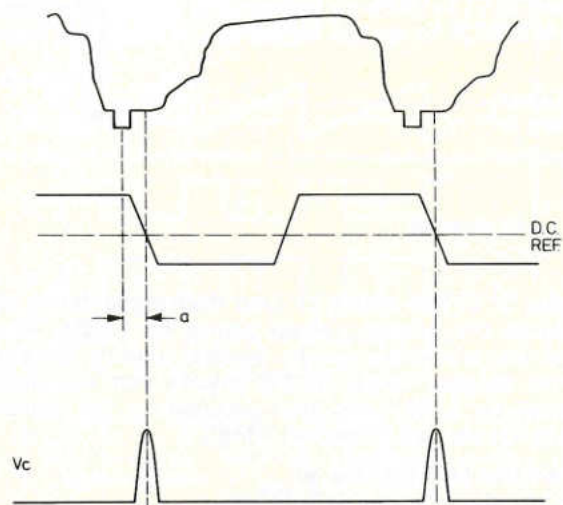
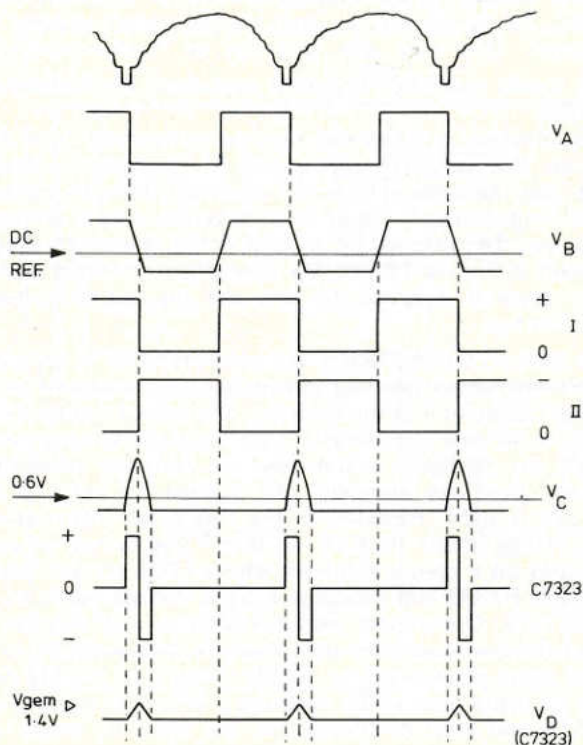
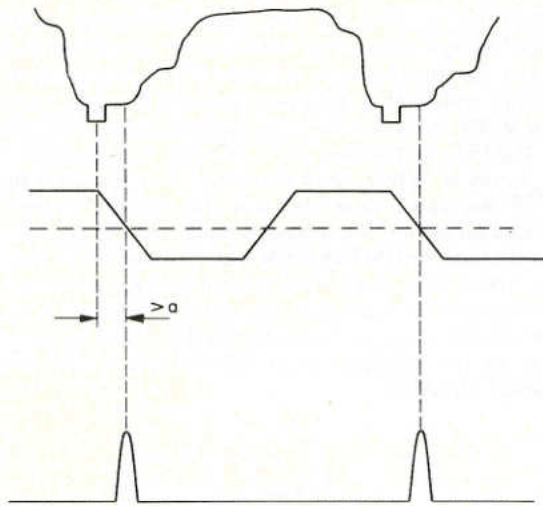

Fig. 9
Fig. 8
Fig. 10
phase difference between the integrated squarewave voltage B (Fig. 8) which is obtained from the sync. module (and has a fixed phase relative to the video signal) and the horizontal flyback pulses C from the horizontal output stage. If the squarewave voltage  $V_B$  exceeds a certain reference value, current source I is switched on; if  $V_B$  is smaller than the reference value, current source II is switched on. Each time that the voltage on point 2 of IC7322 exceeds a certain value (approximately 0.6V) the electronic switch in the phase discriminator closes. Then either current source I supplies (charging) current to C7323 or current source II discharges C7323. In the case of a correct phase relationship between the horizontal flyback pulses (C) and the squarewave voltage (B), both current sources supply equal currents to C7323 so that this capacitor is charged to the same extent as it is discharged. The average voltage across C7323 does not change (remains 1.4V) and the oscillator is not corrected (see Fig. 9). If the average voltage increases due to the oscillator leading, then via R7323 point 15 becomes more positive relative to point 14 so that the upper level of the level detector is raised and the oscillator frequency is reduced. The reverse happens if the oscillator lags. R7323, C7322 and R7322 form a flywheel circuit. R1460 determines the degree of integration of the squarewave voltage and thus the slope of the falling edge, (Fig. 10). As a result of this the horizontal flyback pulse is also shifted to the right and the picture is shifted to the left.